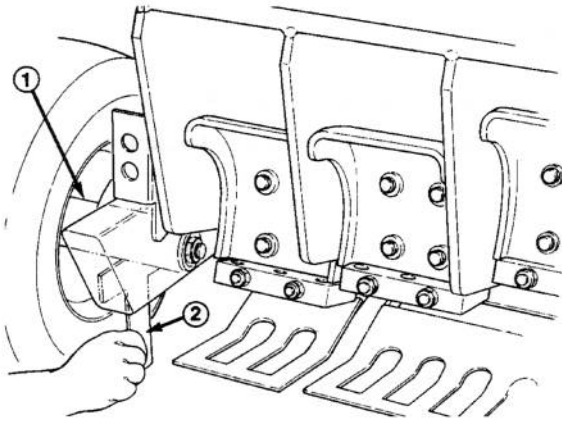

Figure 10
4. Repeat this procedure using the long end of the height gauge on each rear wheel spindle (Fig. 10).
4. Repeat the procedure using the long end of the height gauge on each rear wheel spindle (Fig. 10).